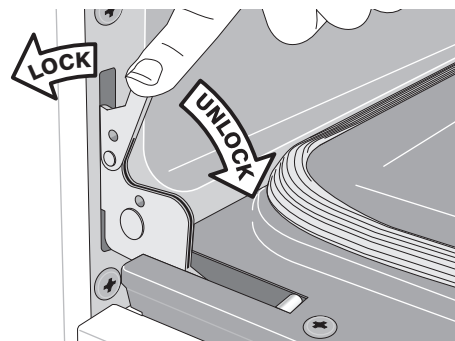

Figure 17: Door hinge locks
2. Pull the door hinge locks on both left and right door hinges down from the oven frame completely toward the oven door (see Figure 17). A tool such as a small flat-blade screwdriver may be required.
4. Push the door hinge locks up toward and into the oven frame on both left and right oven door hinges to the locked position (see Figure 17).